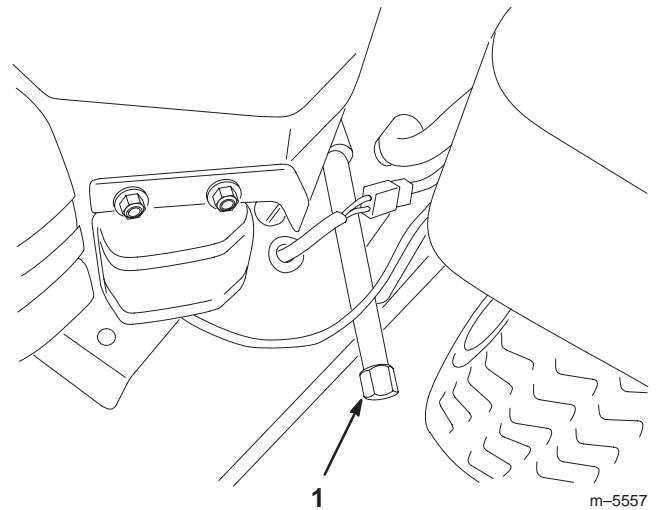

Figure 16
3. Place a pan below the oil drain. Remove the oil drain cap (Fig. 16).